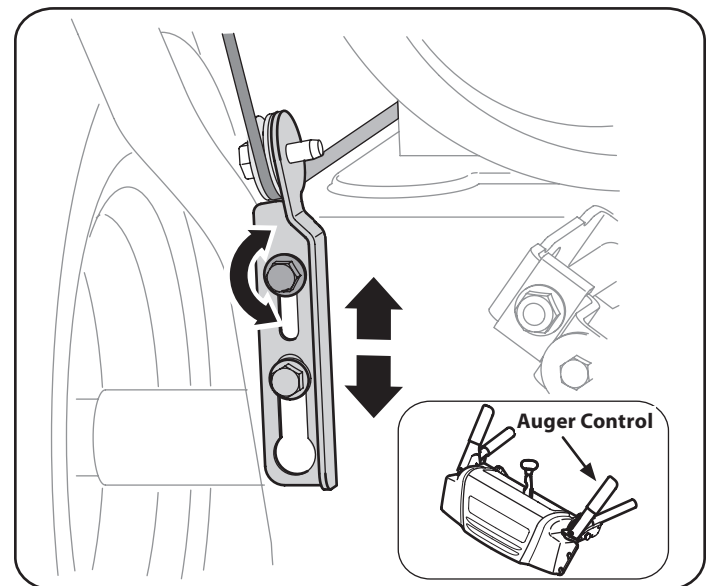

Figure 15
1. The auger control is located on the left handle. See Figure 15 inset. When the auger control is released and in the disengaged “up” position, the cable should have very little slack. It should NOT be tight.
4. Allow the augers to remain engaged for approximately ten (10) seconds before releasing the auger control. Repeat this several times.
7. To readjust the control cable, loosen the upper hex bolt on the auger cable bracket. See Figure 15.